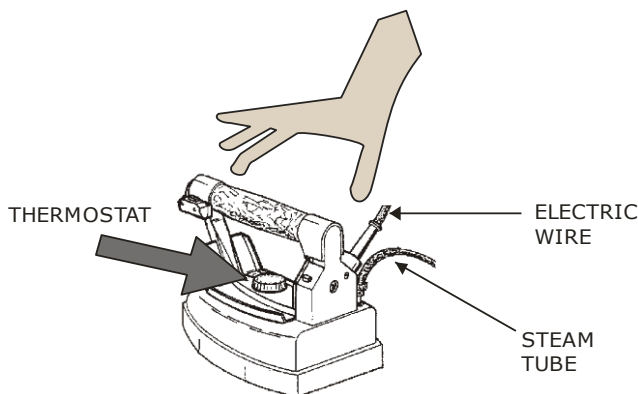

Fig. 3
3. Switch on the boiler (fig. 1-6), the iron (fig. 1-5) and adjust the thermostat (fig. 3) on "cotton".
4. For dry ironing it is possible to adjust the thermostat (fig. 3) on different positions according to the type of fabric (look at garment label). For steam ironing set the thermostat of the iron on "cotton" or "linen".
3. steam tube and iron cable once they seem damaged (fig. 3);